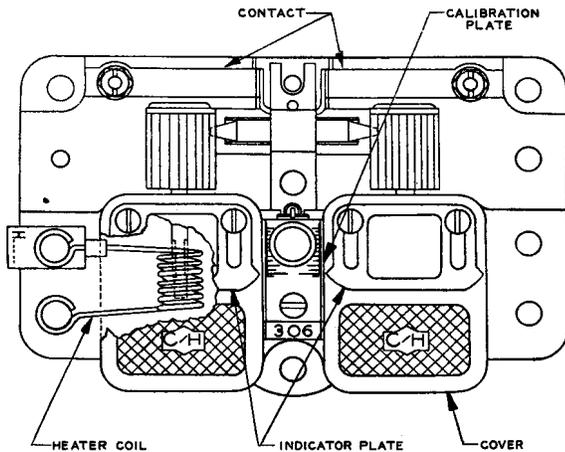

Fig. 4 - Cutler-Hammer Starter - Thermal Overload Relay
(1) To adjust the Cutler-Hammer relay, (see Fig. 4) loosen the screws which hold the cover in place and raise or lower it to bring the indicator opposite the desired graduation on the calibration plate. Adjust both elements of the relay to the same graduation.